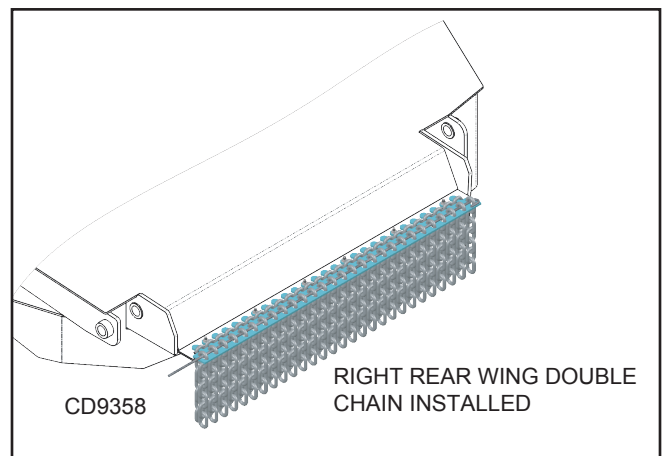

Figure 26. Double Chain
3. Compare removed bracket with new double lock brackets to identify correct new part. Refer to Figure 26 for example.